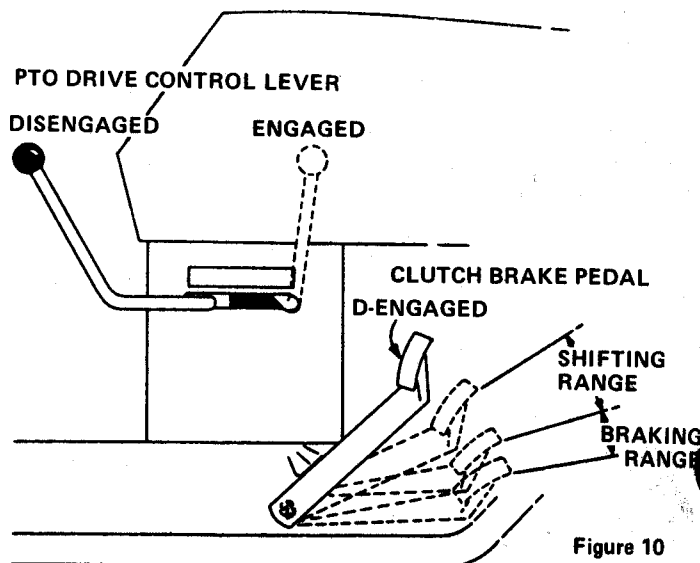

Figure 10
6. To stop the tractor, depress foot pedal to the braking range, then return it to the shifting range and place gear shift lever in neutral. Fully depress pedal and engage the brake lock when parking or leaving the tractor. (Figure 10)
2. Release brake lock by depressing the clutch-brake pedal, Figure 10, until the lock disengages.
3. Depress clutch-brake pedal approximately halfway (into the shifting range) as shown in Figure 10. Place gear shift lever into the desired gear and